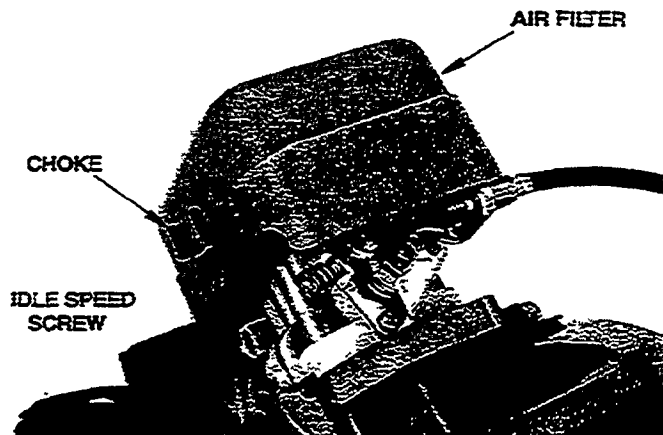

Figure 8
- Adjusting idle speed should always be done with a tachometer to insure proper idle speed (2,800 to 3,300 rpm). If a tachometer is not available, the idle speed may be adjusted as follows (Figure 8):